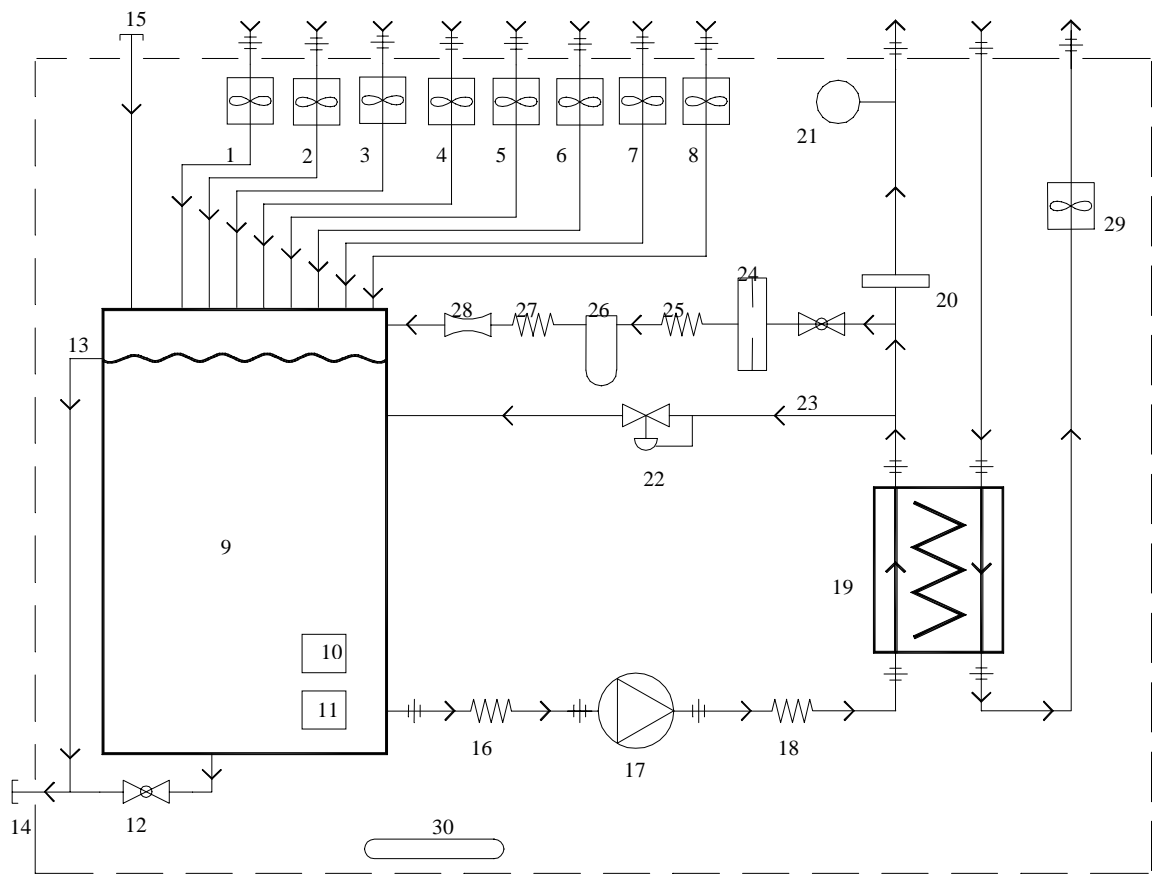

Figure 1.1 - HTU Plumbing Schematic
The HTU coolant plumbing system consists of a main cooling loop, a back pressure regulator (BPR) by-pass loop, and a de-ionization by-pass loop. A schematic representation of the HTU coolant plumbing system is given in Figure 1.1. The numbered items in Figure 1.1 are defined in Table 1.2. Each sub-system is described below.
Index of Components shown in Figure 1.1
1.7.1 Main Cooling Loop includes eight (8) return flow meters, a reservoir, a circulation pump, a heat exchanger, and three (3) supply-side sensors (temperature, pressure, and volume resistivity). See Figure 1.1, above.
The function of this plumbing circuit is to maintain an adequate volume resistivity level (>600 kOhm-cm) of the entire coolant charge volume. A portion of the main coolant supply flow (0.5-to-3gpm) is continuously diverted through a de-ionizing cartridge to remove impurities, and the purified coolant is directly discharged back into the Reservoir. Components include a flow constrictor, ball valve, de-ionization cartridge, and a flow switch. See Figure 1.1, above.